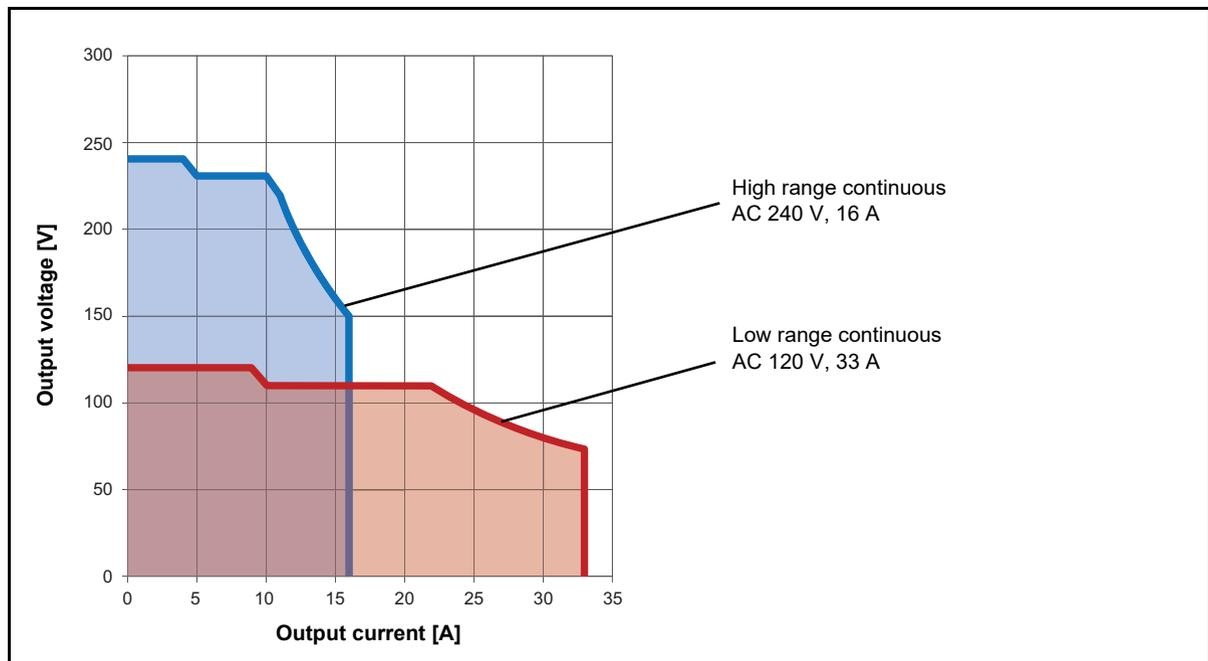

Figure 15-2: Permitted operating range 1 x AC 240 V 16 A
5. See Figure 15-2: "Permitted operating range 1 x AC 240 V 16 A" on page 221
4. See Figure 15-2: "Permitted operating range 1 x AC 240 V 16 A" on page 221